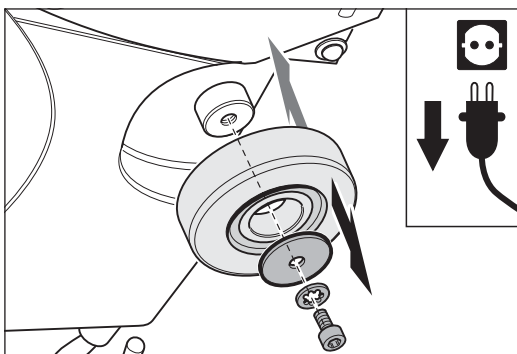
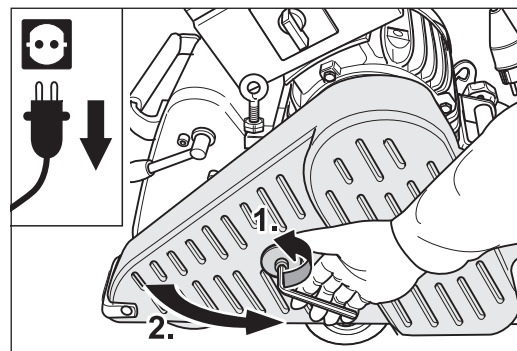

Fig. 91 Remove the screw and washers in the centre of the wheel and remove the lateral wheel. Assemble the new wheel in reverse sequence.
Fig. 94 Pull the power plug out of the socket and open the belt guard.
- 3 Release the screw in the centre of the wheel and remove the screw and washers (Fig. 91). Before removing the left lateral wheel open the belt guard (Fig. 94).
- 4 Open the belt guard (Fig. 94).